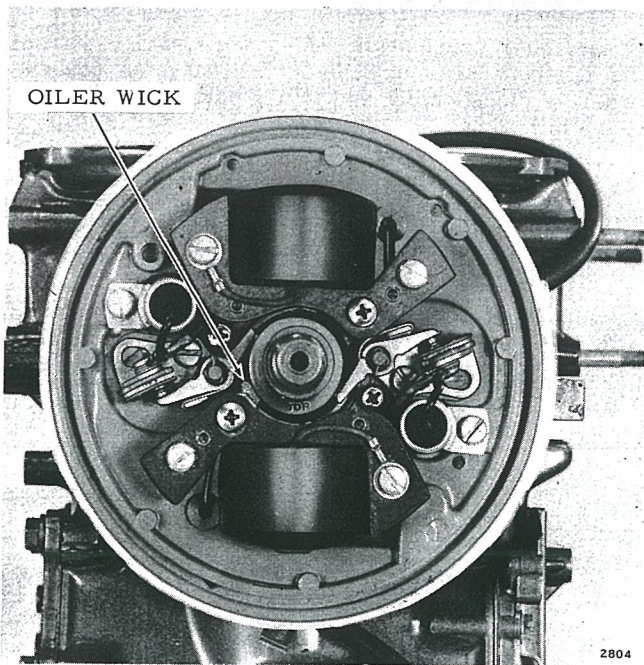

Figure 4-16. Oiler Wick
c. Make sure that a new oiler wick is installed under the forward coil. See Figure 4-16.
b. Install cam, making certain that side marked "TOP" is up. See Figure 4-16.